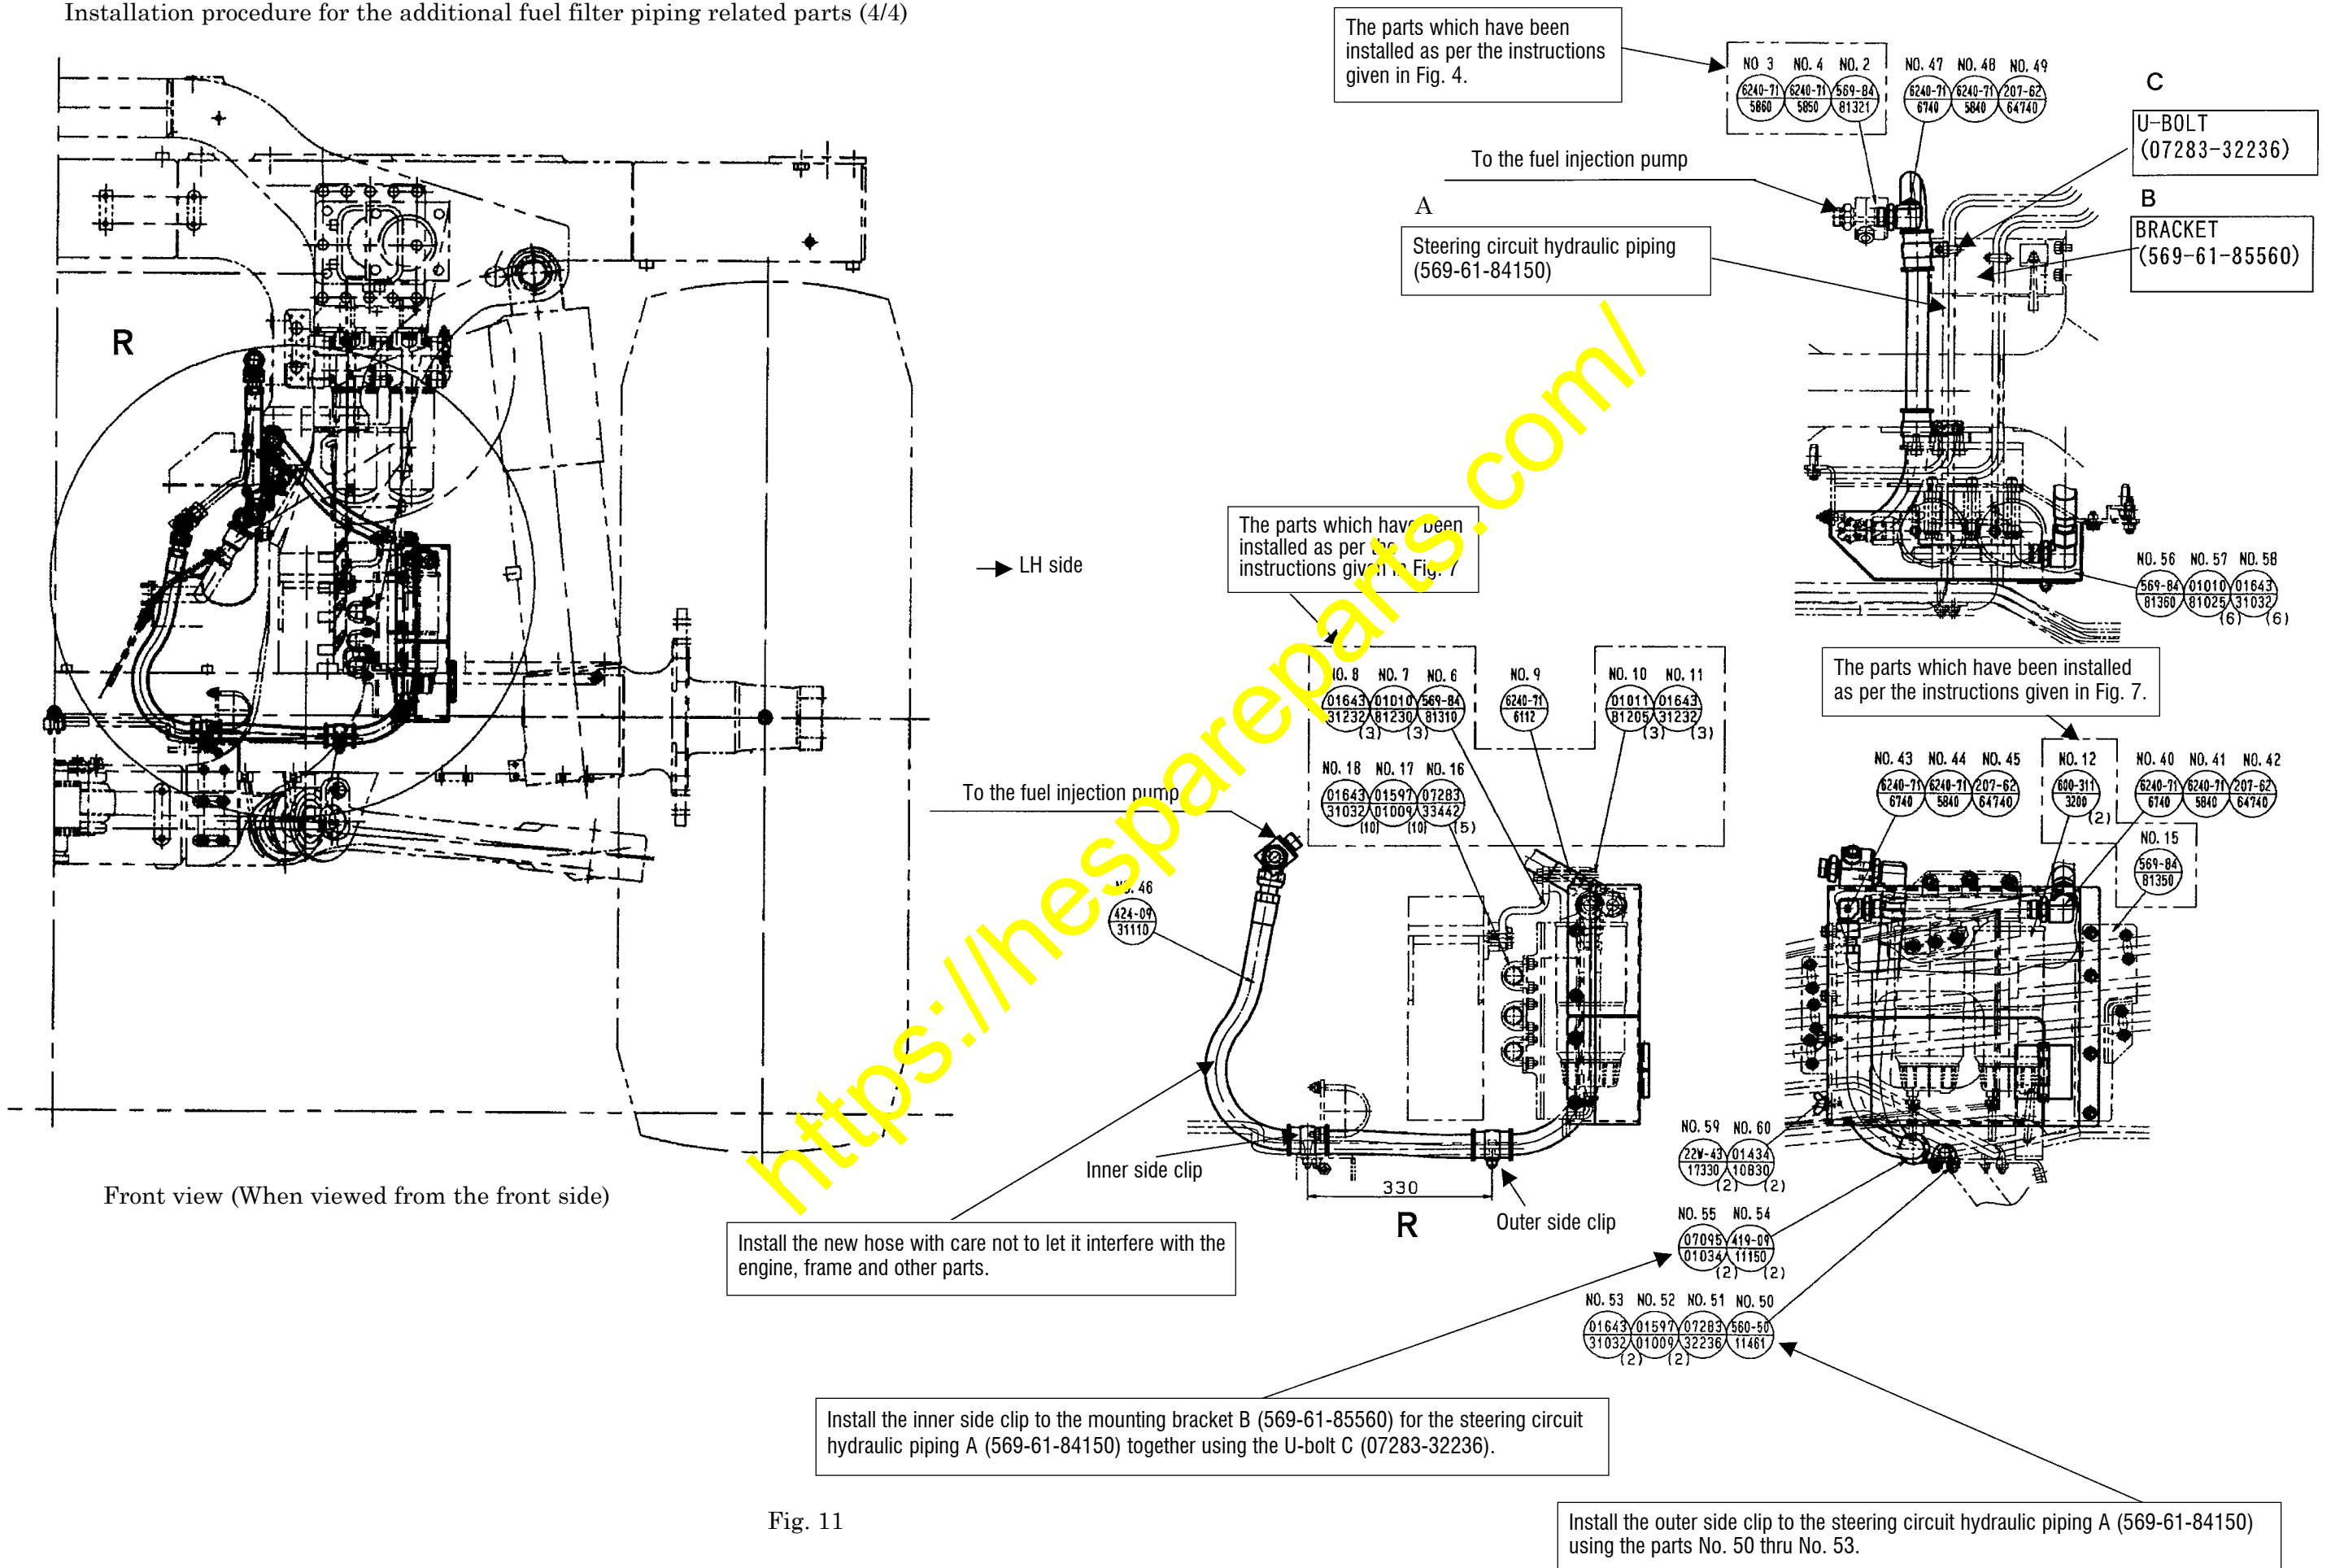

Fig. 11
At this time, be careful not to forget to install the O-rings (No. 41, No. 42, No. 44 and No. 45). (Refer to Fig. 11.)
At this time, be careful not to forget to install the O-rings (No. 48 and No. 49). (Refer to Fig. 11.)
- (9) Install the clip No. 54 (419-09-11150) and cushion No. 55 (07095-01034) for the hose No. 46 (424-09-31110). (Refer to the Section "R" in Fig. 11.)